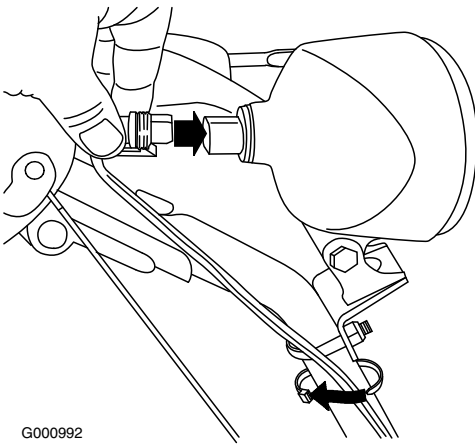

Figure 57
6. Insert the wire connector straight into the back of the headlight until it is securely in place (Figure 57).